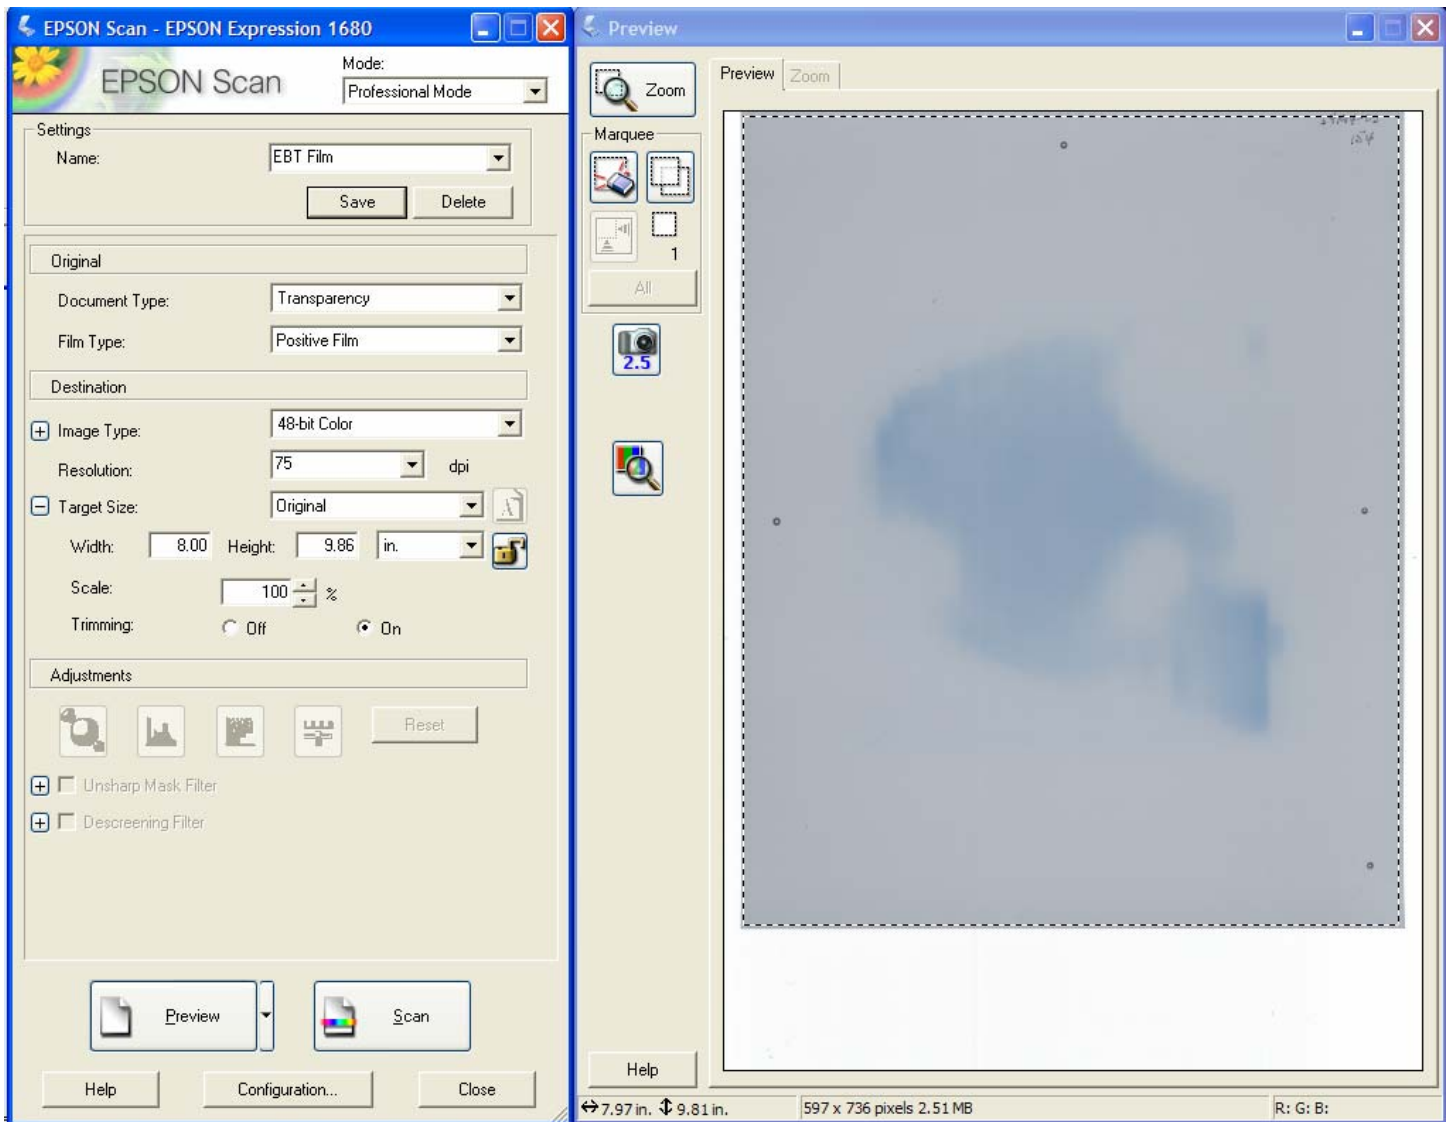

Figure 7
11. Now highlight the “Settings” dialog box – Figure 7. Type in the new settings name, e.g. EBT Film, and save. In future when you select EBT film under “Settings” you will return to all the values/options selected as well as the selected scan area. You are ready to scan your image set.